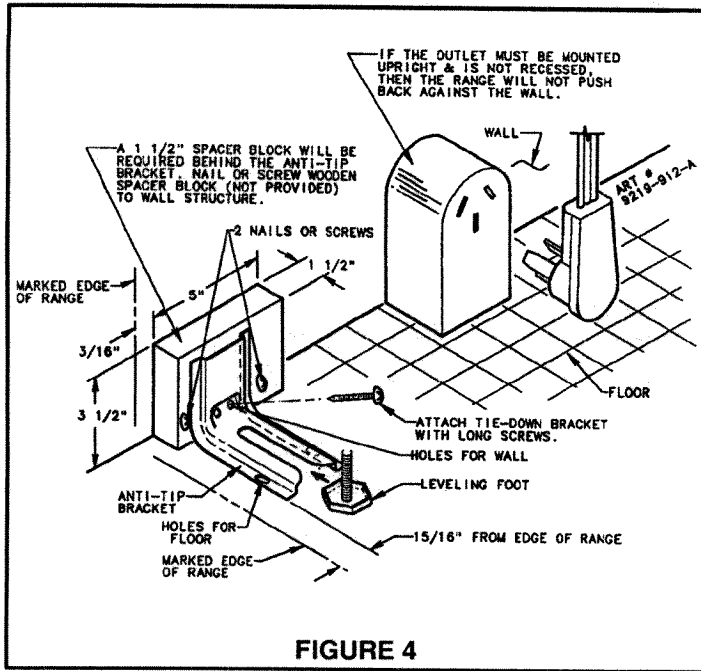
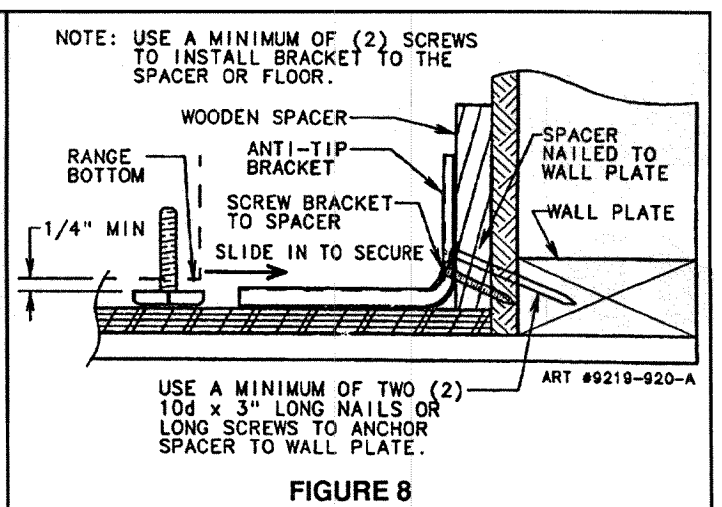

FIGURE 4
FIGURE 8
Installations with alternate outlet locations (see figures 4 through 6.)
- Place the bracket 15/16" from the marked "EDGE" toward the center of opening and against the spacer as shown in figures 4 through 6, as applicable. (See figures 4 through 6 for information on appropriate spacer sizes. See figure 8 for information on securing of spacer.)
- Use the bracket as a template and mark the required holes, as shown in figure 4 through 6, for the type of construction you will be using.